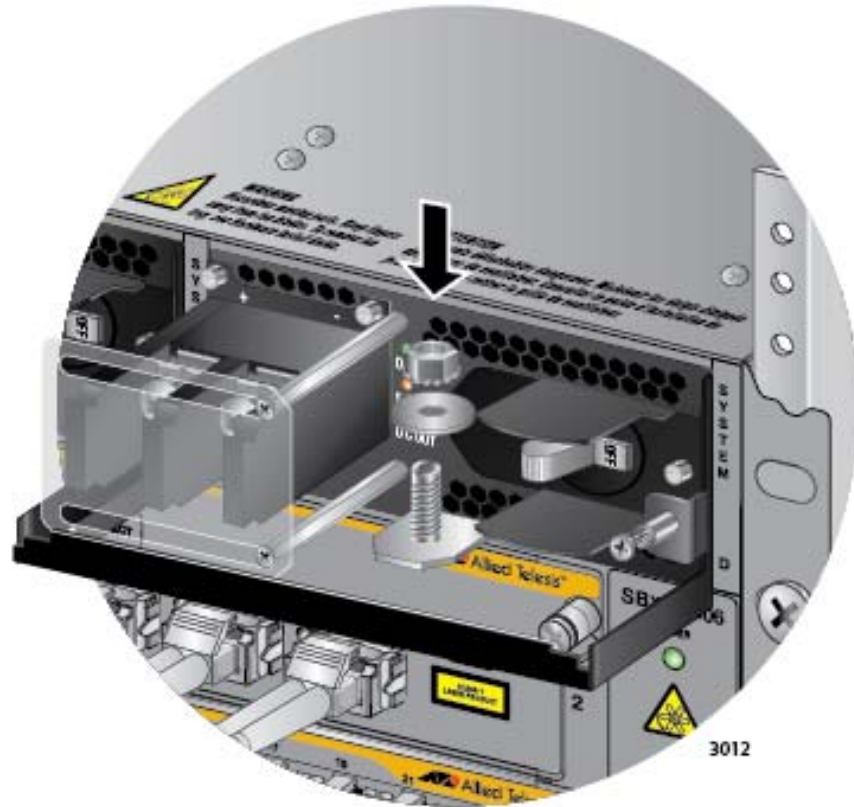

Figure 177. Reinstalling the Nut and Washer on the Grounding Post
10. Reinstall the nut and washer on the grounding post. Refer to Figure 177 on page 280.